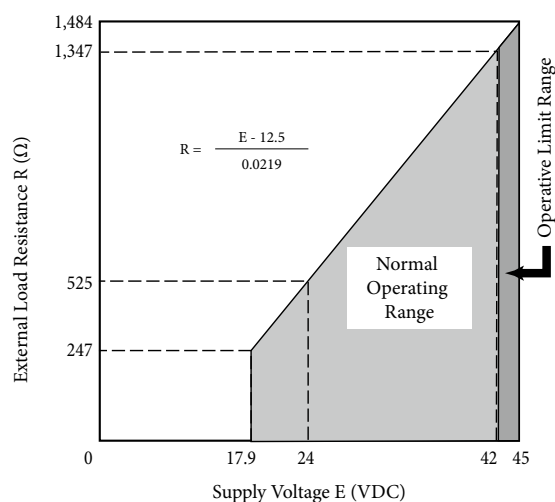

Figure 1. Supply Voltage and External Load Resistance of the Travel Transmission
*1. The external load resistance will be the sum of the host logic solver's input resistance and the two resistances. please refer to Figure 1 for details regarding the power supply and resistance.